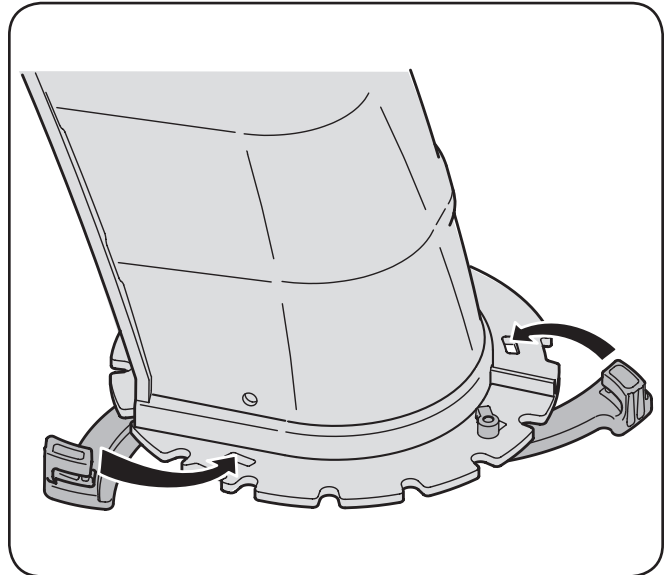

Figure 3-24
2. Close the flange keepers to secure the chute assembly to the chute base. The flange keepers will click into place when properly secure. See Figure 3-24.